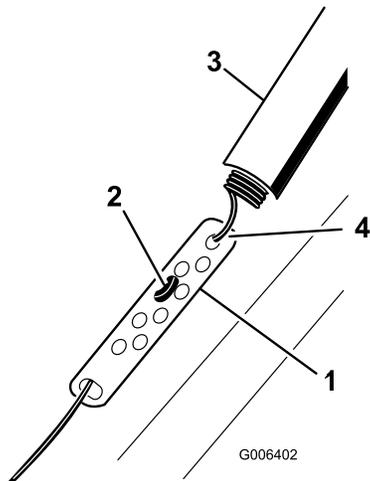

Figure 22
- Slide up the spring cover and unhook the spring from the adjuster link (Figure 22).